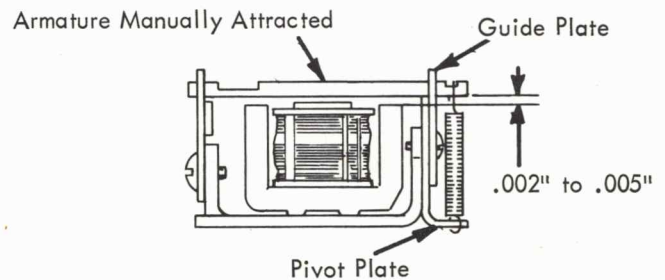

FIGURE 17.2 Pivot Plate
2. Pivot Plate (Late Style) Fig. 17.2 - Adjust for a clearance of .002" to .005" between the yoke and armatures with the armatures manually attracted. Measure clearance of the outside armatures (T2 & R5).